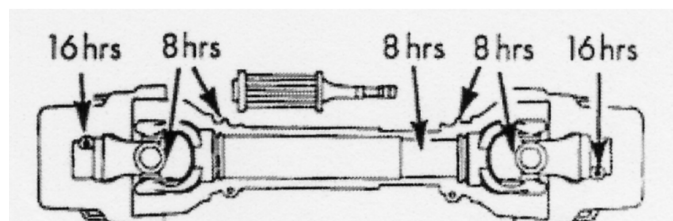

Fig. 2 – PTO drive and cross journal grease points
- Dismantle and clean PTO sliding surfaces and re-grease. Grease universal joints (Fig. 2)
- Grease PTO inner tube and push pins (Fig 2)